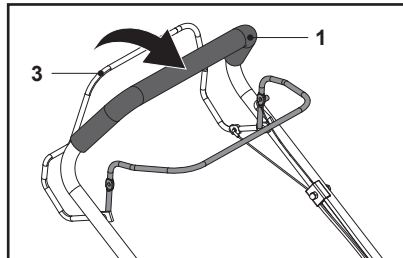

Fig. 13
1. Push the self-propelling lever (3) forward and hold it against the grip handle (1) to engage the rear wheels (23) (Fig. 13).
2. Release the self-propelling lever (3) to disengage the rear wheels (23).